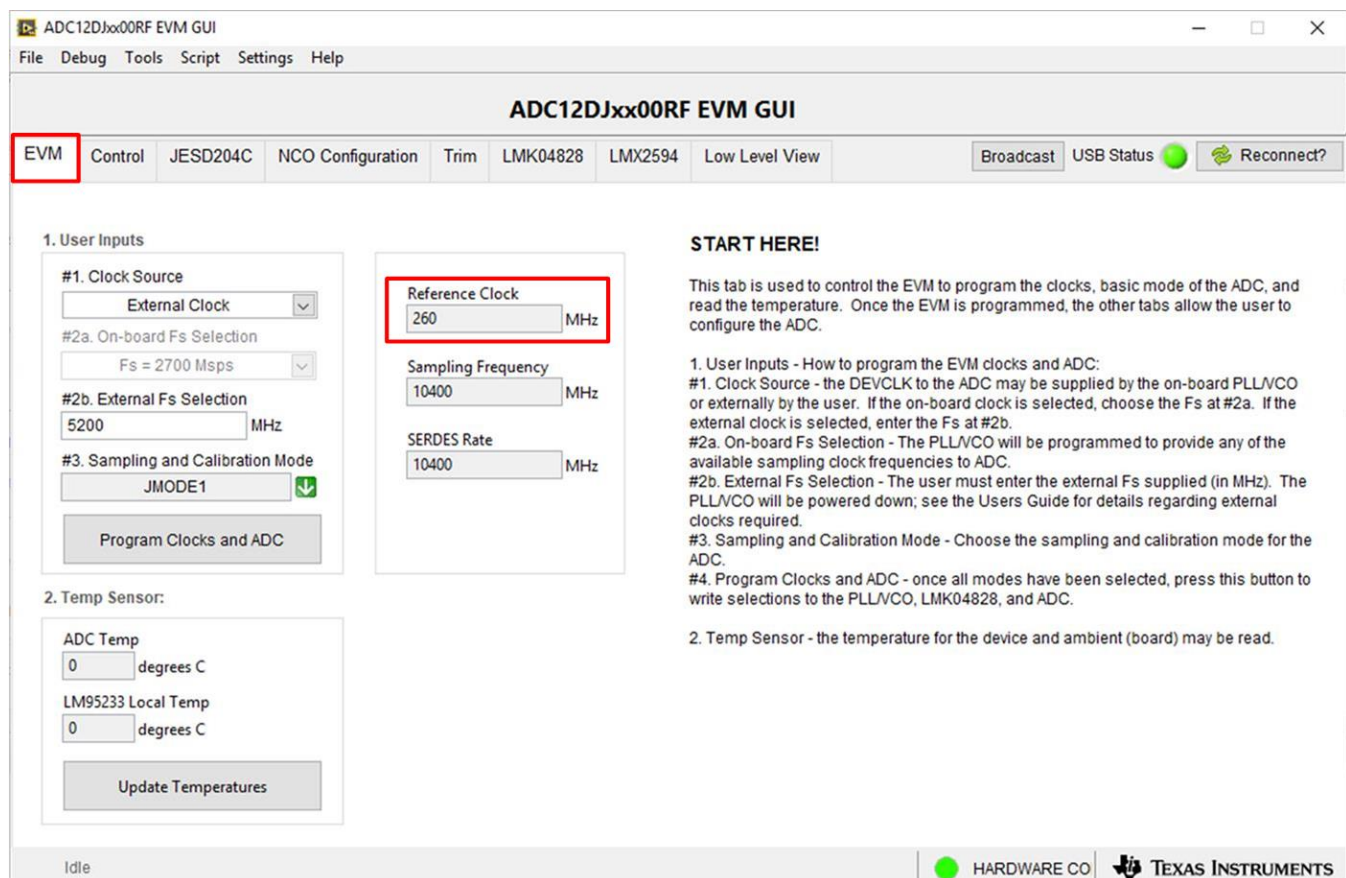
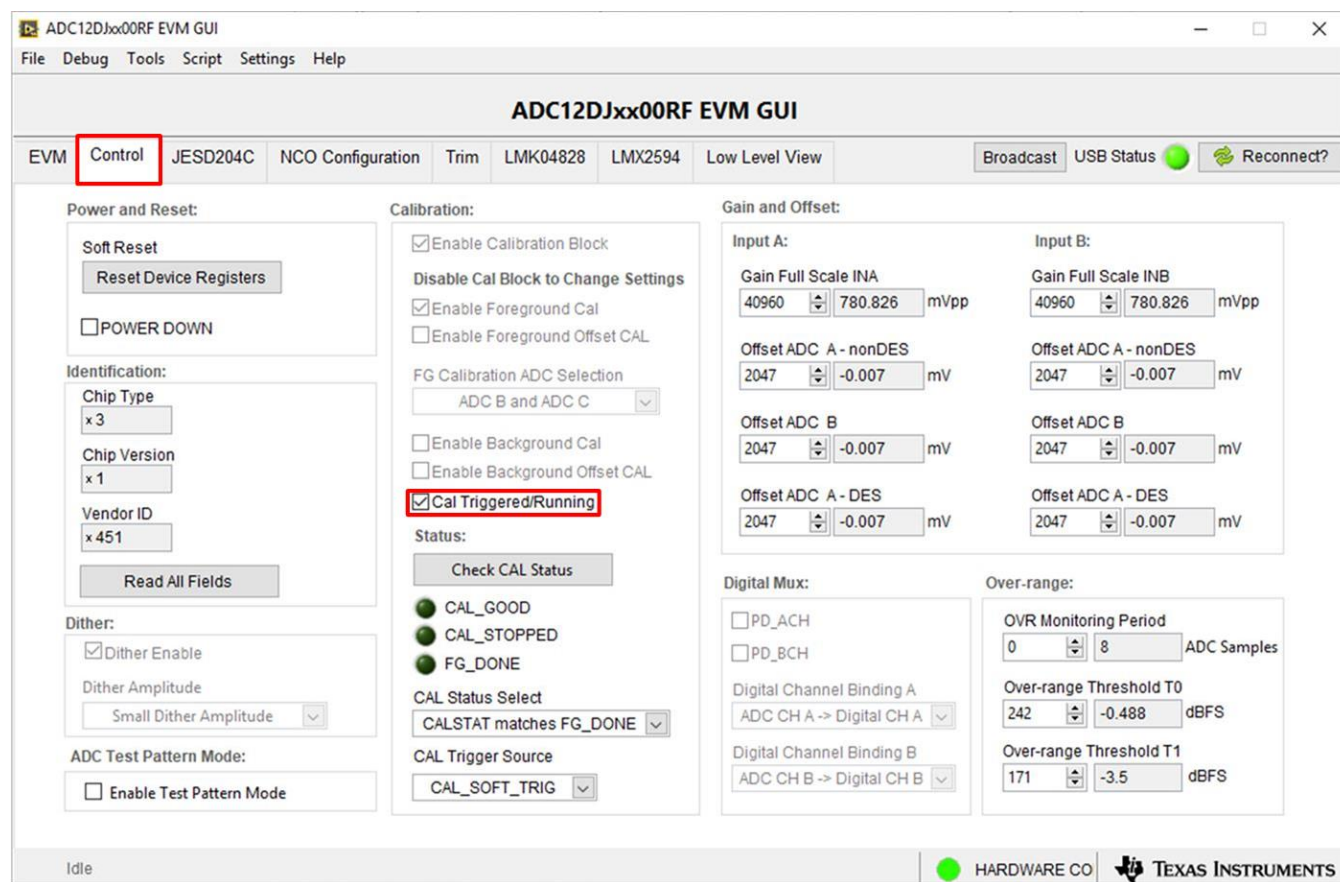

Figure 3-2. Configuration GUI EVM Tab
Figure 3-3. Configuration GUI ADC Control
1. The Reference clock frequency can be obtained from the ADC12DJ5200RFEVM GUI. Once the ADC12DJ5200EVM GUI is configured to the desired JMODE mode and clock rate. The Reference Clock frequency required by the EVM is displayed on first page of the GUI shown with red square in Figure 3-2
Figure 3-2 and Figure 3-3 show the GUI open to the *EVM* tab and *Control* tab respectively. Tabs at the top of the panel organize the configuration into device and EVM features with user-friendly controls and a low-level tab for directly configuring the registers. The EVM has three configurable devices, namely the ADC12DJ5200RF, LMK04828, LMK61E2, and LMX2594. The register map for each device is provided in the device data sheet (ADC12DJ5200RF 10.4-GSPS Single Channel or 5.2-GSPS Dual Channel, 12-bit, RF, LMK0482xB Ultra Low-Noise JESD204B Complnt Clk Jitter Cleaner w/ Dual Loop PLLs, and LMX2594 15-GHz Wideband PLLatinum™ RF Synthesizer, respectively).